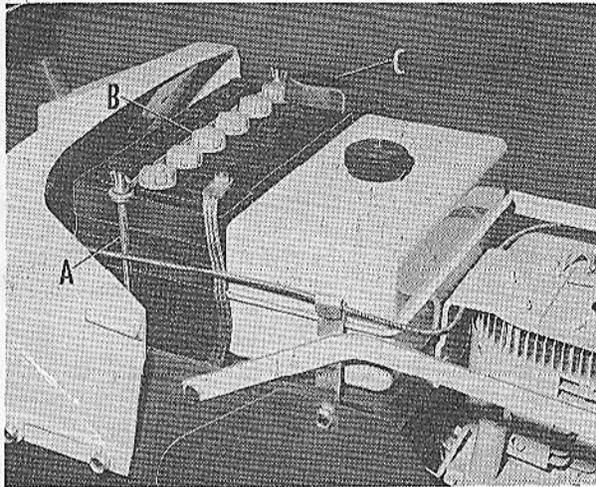

FIG. 3
5. Be sure terminal cover (C, Fig. 3) is in place on positive terminal.